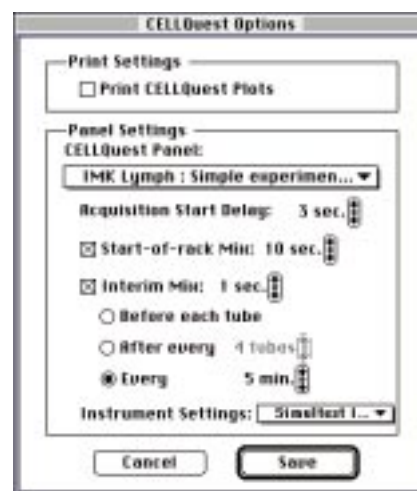

Figure 5 CELLQuest Options window showing selected panel and instrument settings.
4. At the Set Up view, enter the necessary information. Click on the CELLQuest Options button, choose your Simultest reagent panel/CELLQuest document from the panel pop-up menu. Choose Simultest Settings from the Instrument Settings pop-up menu. Click Save when done. Click Accept at the bottom of the view (see Figure 5).
NOTE: Figure 5 displays the default mixing conditions and Acquisition Start Delay setup that are recommended for Simultest samples.